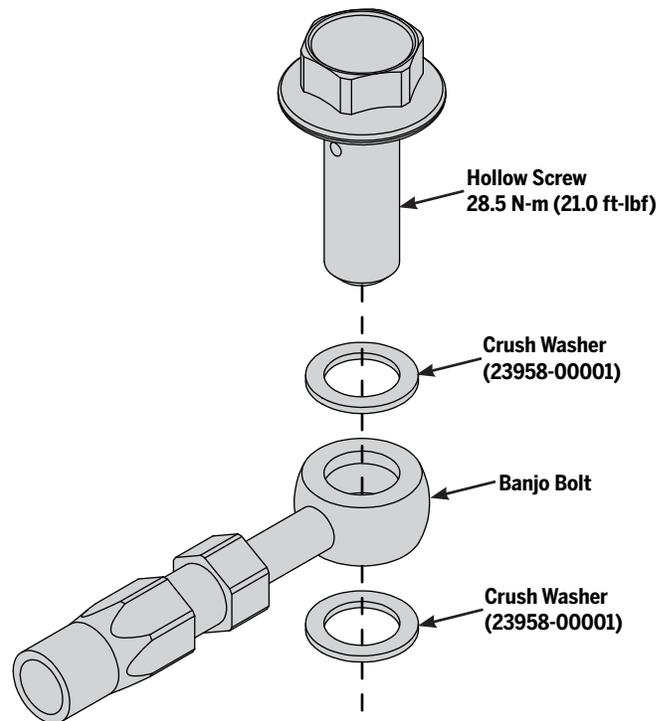

Figure 99: Brake Line Fasteners
4. Using a 14 mm socket wrench, attach the Banjo Bolt (on the end of the brake line) to the Caliper. See **Figure 99**. Torque to **28.5 N-m (21.0 ft-lbf)**.